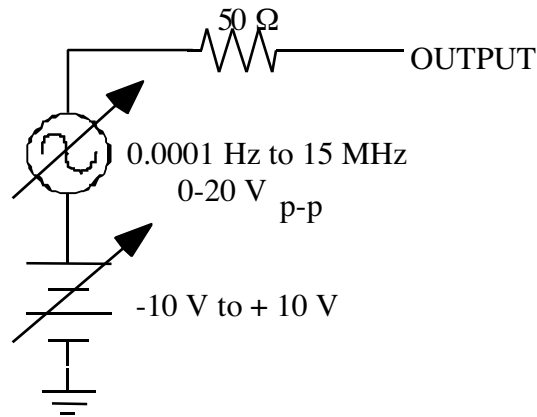

Figure 3 - Functional circuit of a signal generator
The signal generator is a voltage source which can produce various time dependent signals waveforms from 0.0001 Hz to about 13 MHz. We have not used the terminology peak-to-peak in class but it means the voltage from the most positive point of a voltage waveform to its most negative point. Typically, a waveform such as a sine wave is symmetric about zero but, for various reasons, you may need to shift the entire waveform by adding a voltage in series with it. This is known as an offset voltage. The signal amplitude of the function generator is adjustable up to about 20 volts peak-to-peak (20 Vp-p) with an adjustable DC offset of up to 10 volts positive or negative. The generator has a 50 ohm output impedance (see Figure 3) which can affect your selection of resistor values in several experiments.
Pay careful attention to procedure for setting the output impedance of the signal generator. This does not actually change the resistance in Figure 3, but changes how the output voltage is calculated. For example, if you placed a 50Ω load on the generator and programmed the generator in 50Ω mode to output 1 volt, then you would really get 1 volt as measured by an external meter. However, if you put a 1000Ω high impedance load at the output of the generator and you were still in 50Ω mode, almost all of the generator voltage would be developed across the load resistance because it is so much larger than the 50Ω resistance of the generator. Programming the generator to HIGH Z will let the generator know that all of the voltage will be developed across the high impedance load and it will adjust its scale so that the programmed output is what you will really measure.
2. Referring to **Figure 3** in the lab: “If the maximum amplitude of the signal is 2.5 volts, and the minimum amplitude is -3 volts, what is the DC offset? Explain your answer.
4. Using **Figure 3**, explain what setting the output impedance of the function generator to high impedance does.